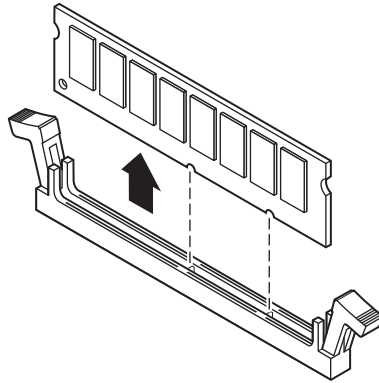

Figure 19: Removing the DIMM
- Carefully lift the DIMM out of the socket (see Figure 19).